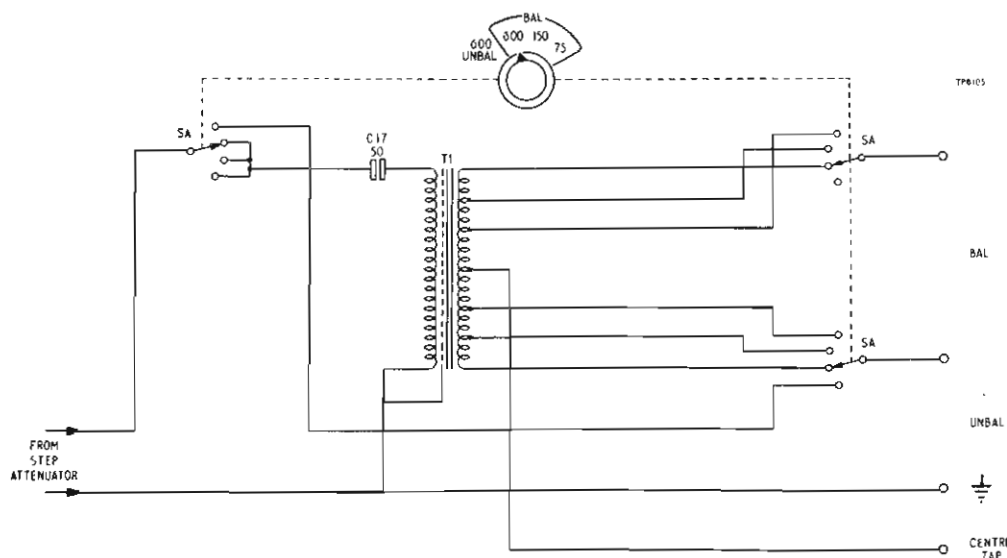

Fig. 3 Output matching stage (less switched internal load)
19. This part of the instrument receives the output of the step attenuator. It consists mainly of a multi-ratio matching transformer and switching arrangements by which the taps on the secondary of the transformer are selected or the transformer is bypassed (Fig. 3).